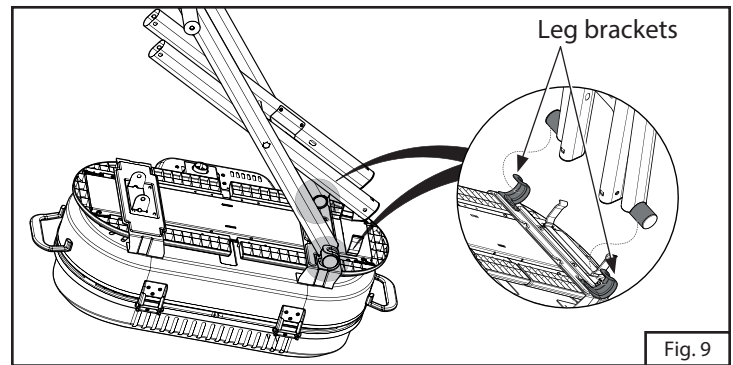

Fig. 9
6. Extend the legs and put the ends of the wheeled leg into leg brackets (Fig. 9).